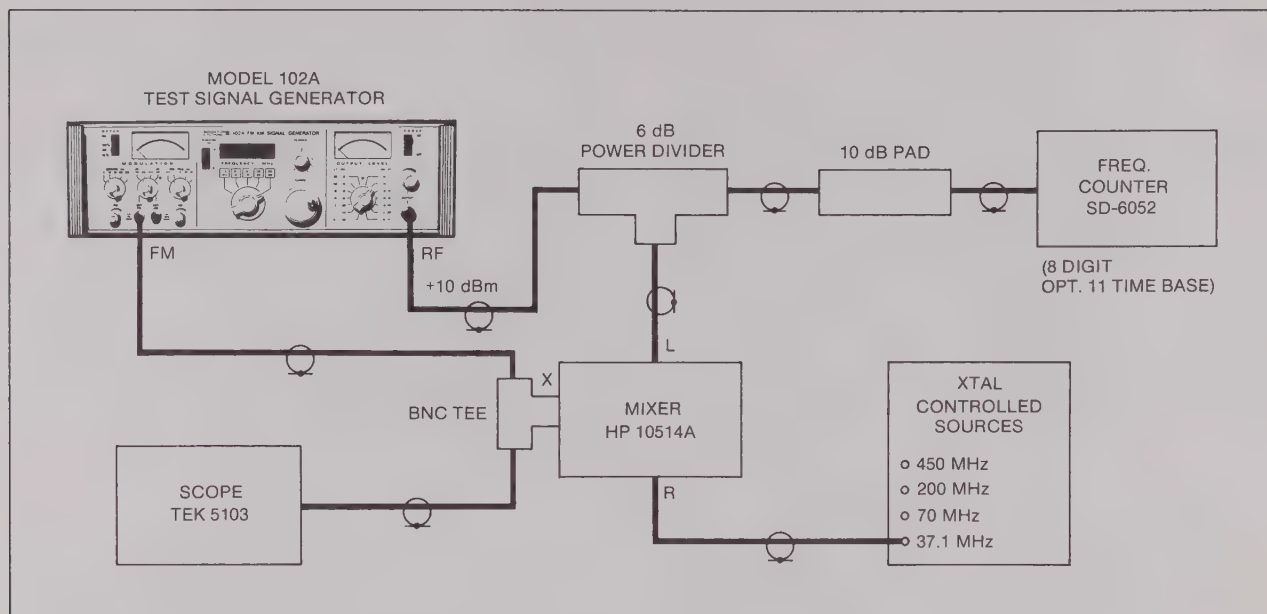

Figure 2-17 Frequency Accuracy Check, Test Setup
- a. Connect the Model 102A and test equipment as shown in Figure 2-17.